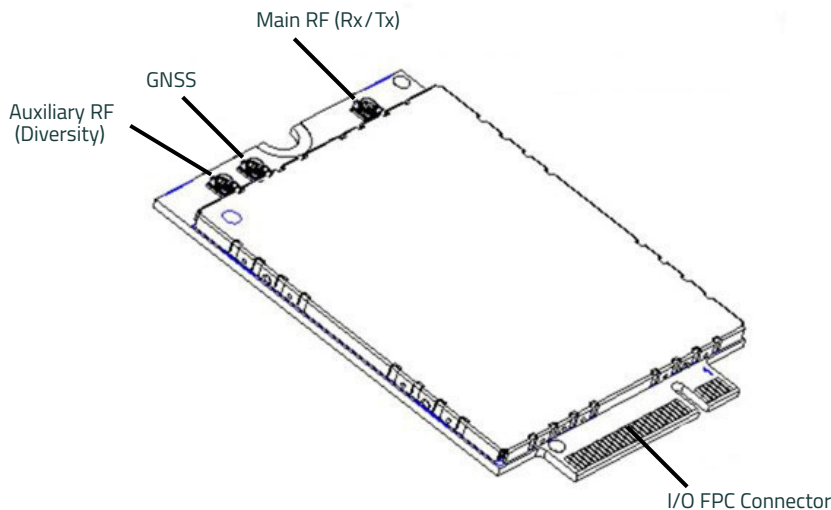

Figure 3-1: Module Connectors
- Connect to system ground using the mounting hole shown in Figure 3-1 on page 34.